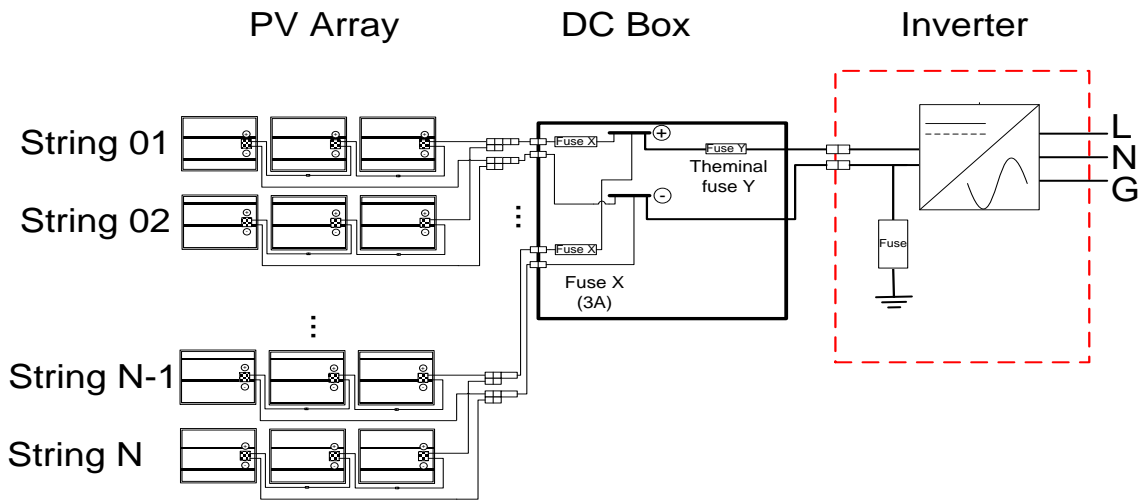

Figure 7-4. Fuse connection for PV array
7.3.2 One 3-Amp fuse can be installed for two strings connected in parallel, as shown in Figure 7-4.
7.3.4 For the PV array in Figure 7-4, if another string is added to the array, i.e. three strings in parallel, the maximum reverse current from another two strings applying to a single string would be 1.96 Amps. It means that the maximum reverse current to PV module will be reached in relation to the over current protection rating of PV module, thus the strings with more than the permitted rating are at the risk of damage. For the maximum reverse current of array can be calculated by using the following formula, Eq(2).
7.3.5 For the PV system designed with multiple string arrays, "Fuse X" with 3 A rating is suggested, as shown in Figure 7-4. The protection current rating for "Terminal fuse Y" between the array and inverter is described as the following formula, Eq(3):